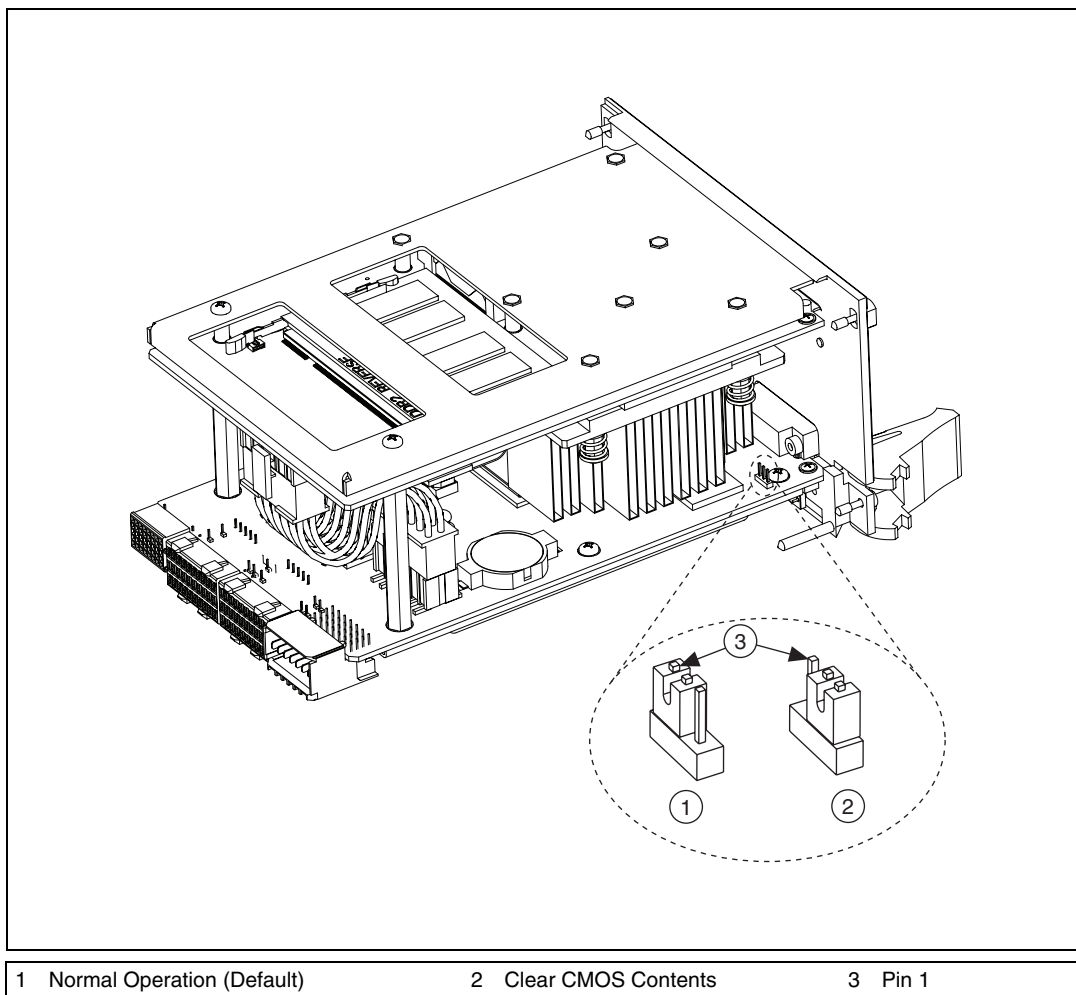

Figure 5-1. Clearing the CMOS Contents
3. Move the jumper on W2 from pins 1–2 to pins 2–3 as shown in Figure 5-1.